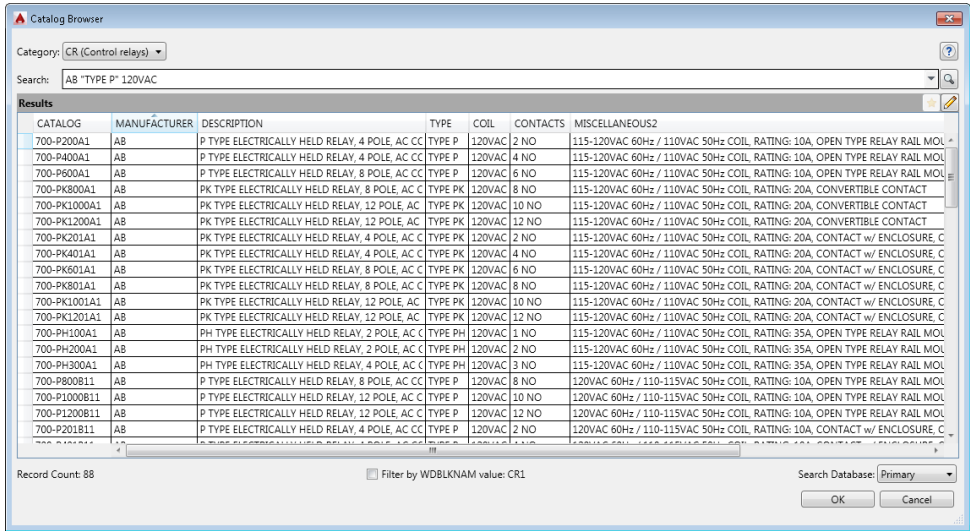

Figure 6-57 The Catalog Browser dialog box
3. Choose the **Catalog Lookup** button; the **Catalog Browser** dialog box is displayed, as shown in Figure 6-57.